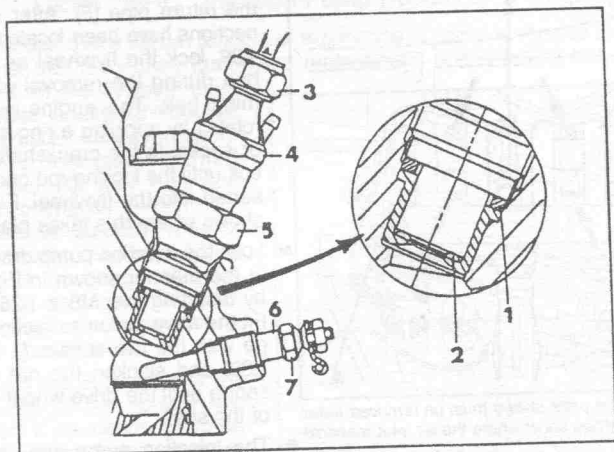
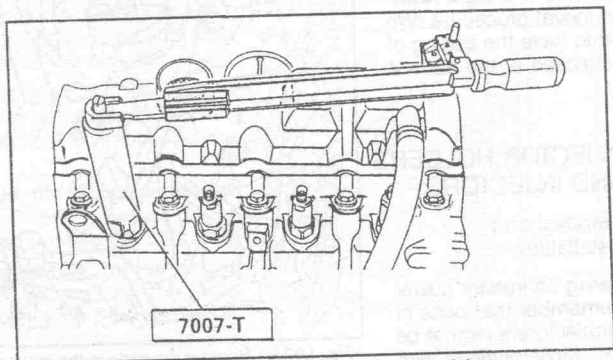

Fig. 1.90. — Sectional view of an injector.
Fig. 1.91. — Removal or installation of an injector.
The installation is a reversal (see also next page). Fit the flame-arrester washer (2) in Fig. 1.90 with the curved face towards the top and fit the new copper washer (1). Tighten the injector holders to 9.0 kgm (65 ft.lb.) with the tool mentioned above, as applicable). Fig. 1.91 shows the the shape of the tool to be used. Tighten the